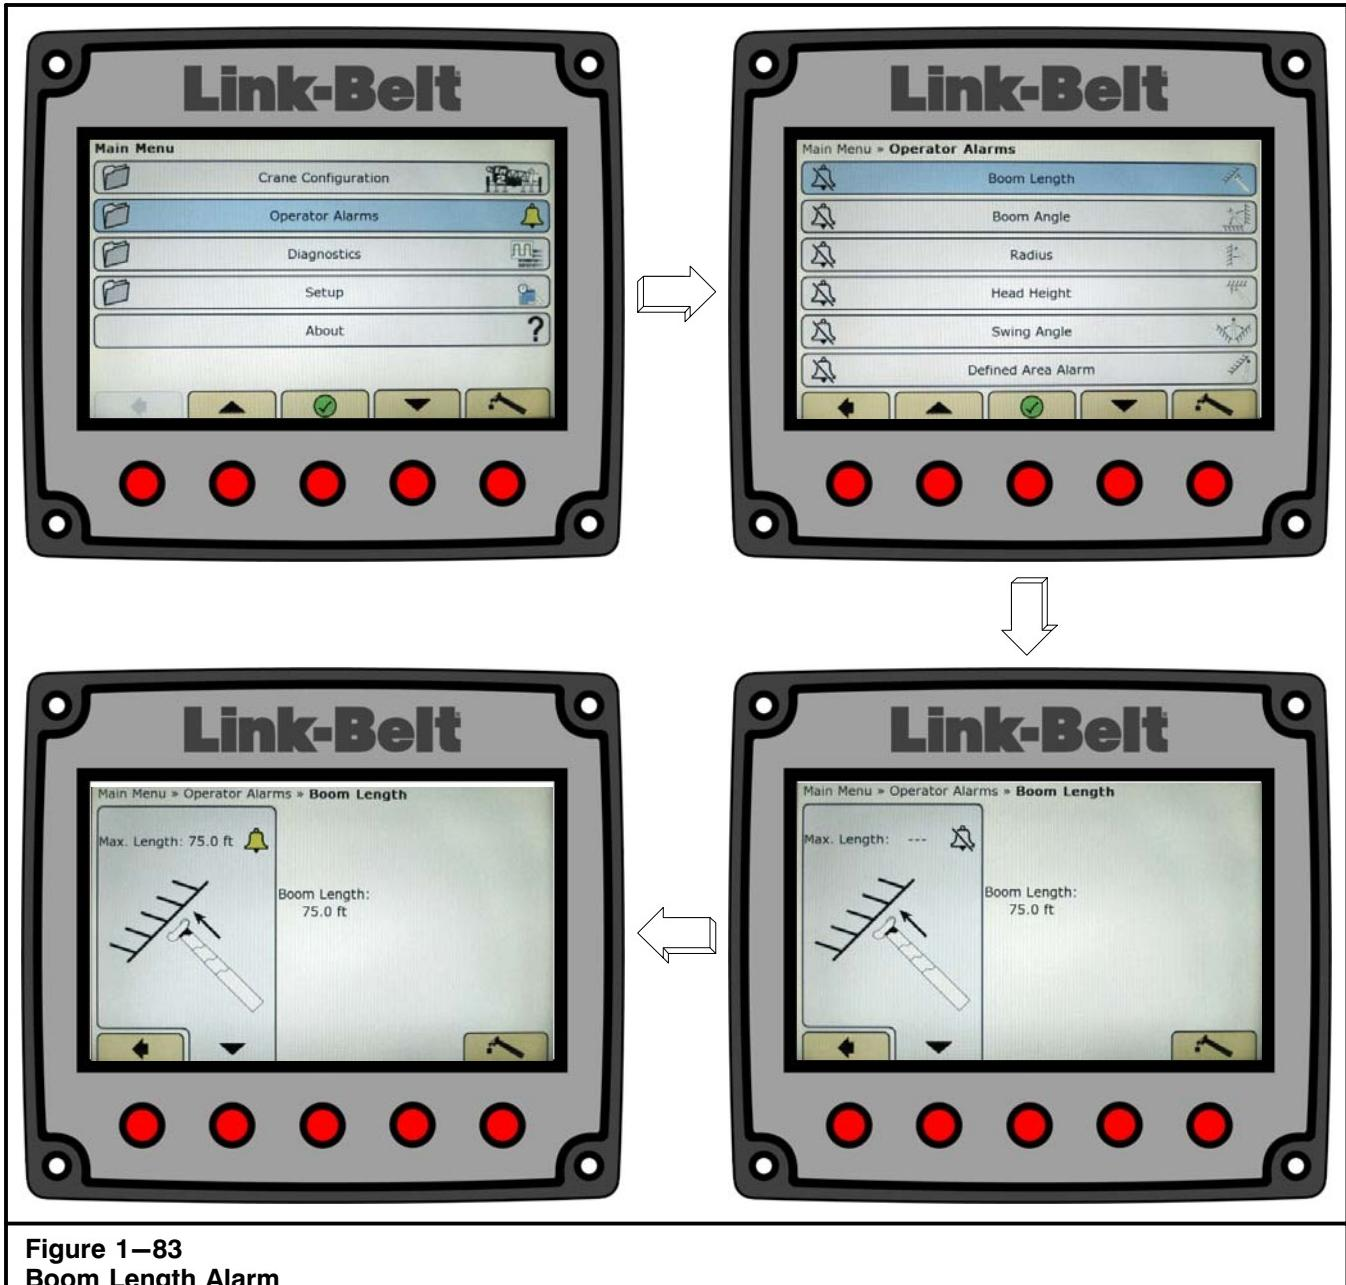

Figure 1–83
2. Scroll to Operator Alarms, and press the OK/Enter button . Refer to Figure 1–82.
- From the normal working screen, press the Main Menu button . Refer to Figure 1–81.
- Scroll to Operator Alarms, and press the OK/Enter button . Refer to Figure 1–82.